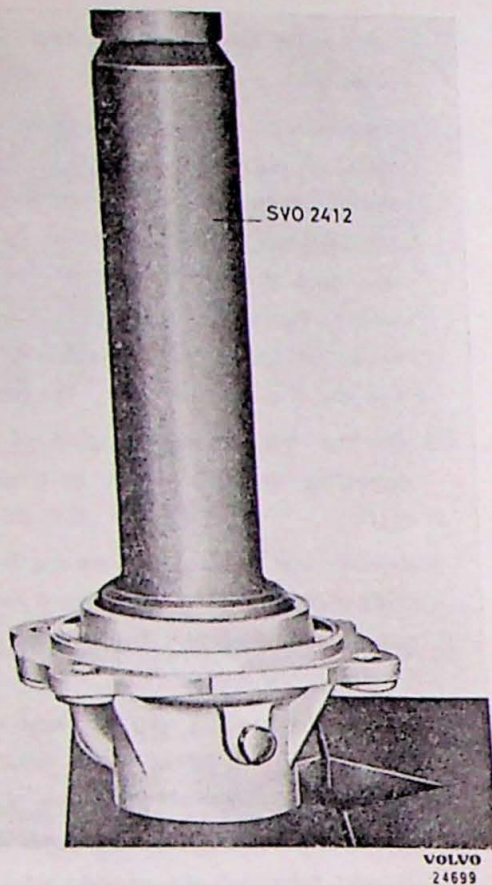

Fig. 3-21. Fitting ball bearing in rear cover
1. Press the ball bearing (15, illustration III-A) into the rear cover (17) with drift SVO 2412, Fig. 3-21 and fit the locking ring. There are different thicknesses of locking ring so select one which completely fills the locking ring groove.